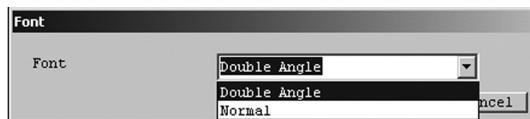

Fig.74
- ③ Click the triangle on the right side of "Font" as shown in Fig. 74, and select the font to set from the drop-down list.